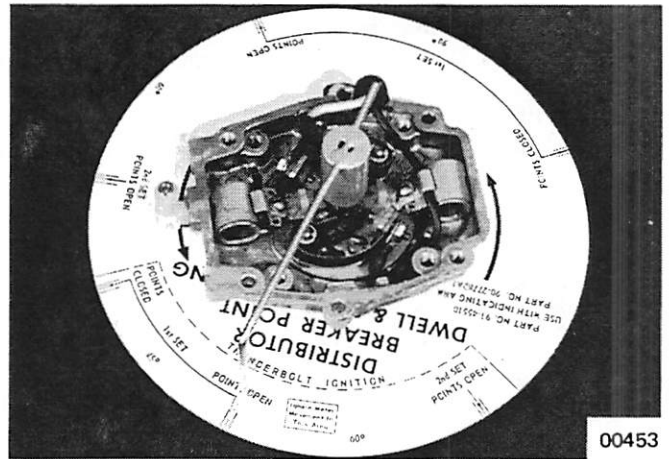

Figure 7. Dwell Plate (C-91-45510A1)
- (f) Rotate indicator arm counterclockwise until breaker points open (indicated by sudden movement in opposite direction of meter pointer hand. Indicator hand must be exactly on centerline marked "Points Open". (Figure 7)